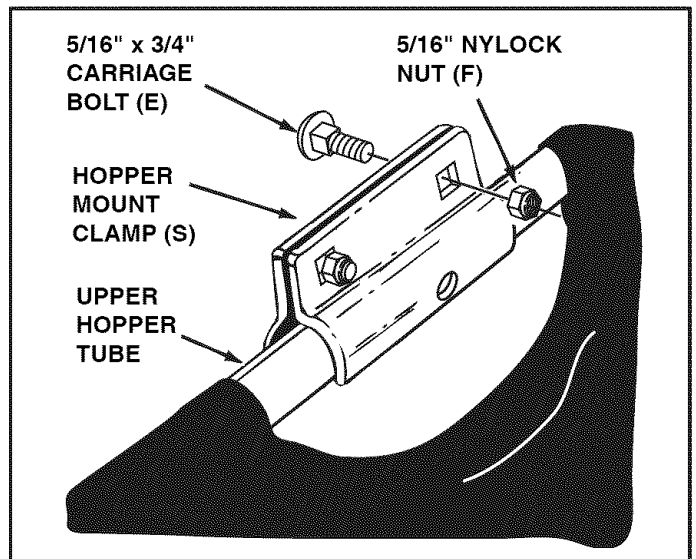

FIGURE 14
- Assemble two hopper mount clamps (S) over the hole in the middle of each upper hopper tube using two carriage bolts (E) and two nylock nuts (F). Tighten only finger tight. See figure 14.